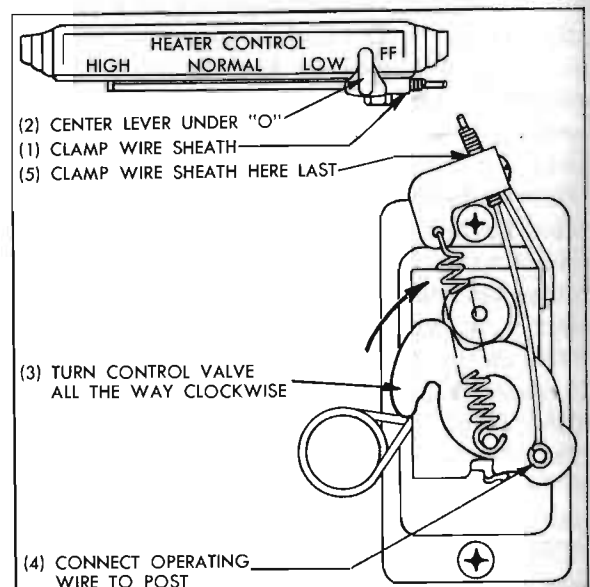

Figure 11-1—Temperature Control Lever Adjustment
2. Turn temperature control valve all the way clockwise until the cam locks against the roller. This is the extreme "off" position. Connect operating wire to brass post on valve and clamp the sheath to valve assembly. See figure 11-1.